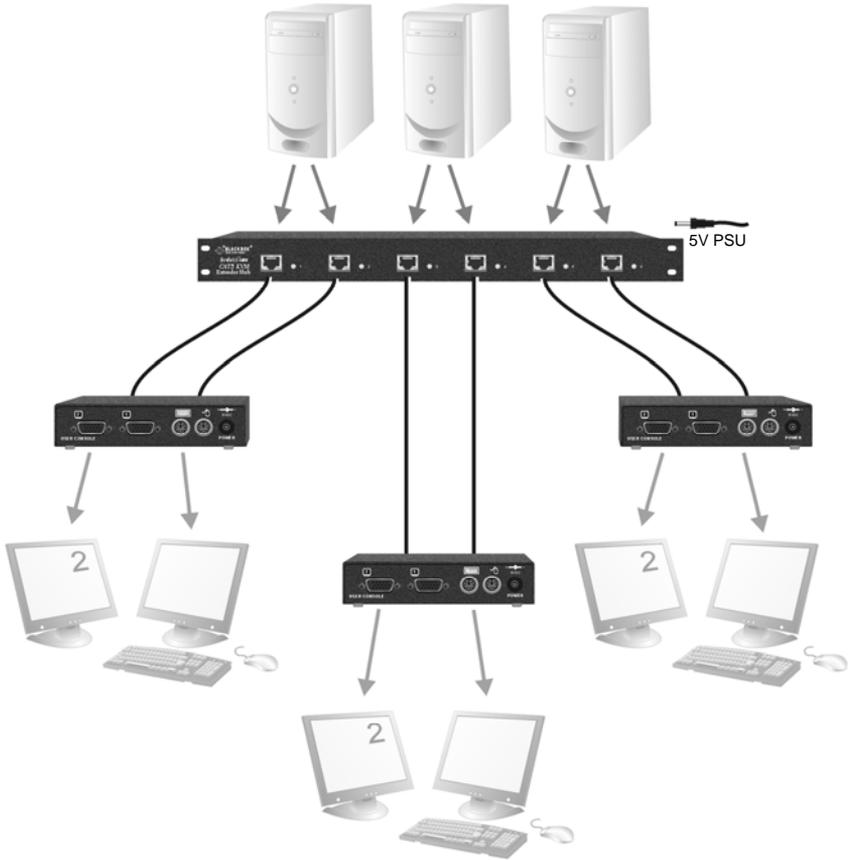

Figure 11 ACU1006RA rack used with ACUR002A Units to extend dual video
- With multi-head Remote Units, using adjacent hub ports to transmit the primary video/data and secondary video signals (see Figure 11).